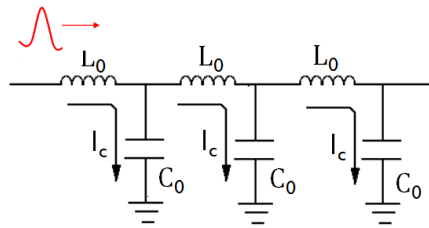

Figure 1.2 Propagation of travelling wave
The travelling wave (TW) signal propagates along the line through a continuous process of the TW voltage charging the line's distributed capacitance through the distributed inductance, creating the TW current along the way (Figure 1.2). Therefore, the travelling wave can be regarded as a single entity consisting of both voltage and current components.